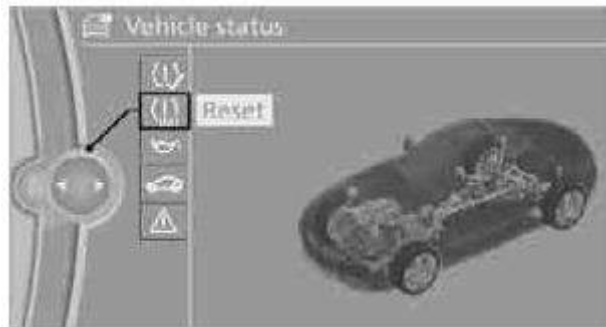

Fig. 26: iDrive Showing "Reset" Display
6. Start the initialization using "Reset". See Fig. 26.
6. Start the reset using "Perform Reset". See Fig. 26.